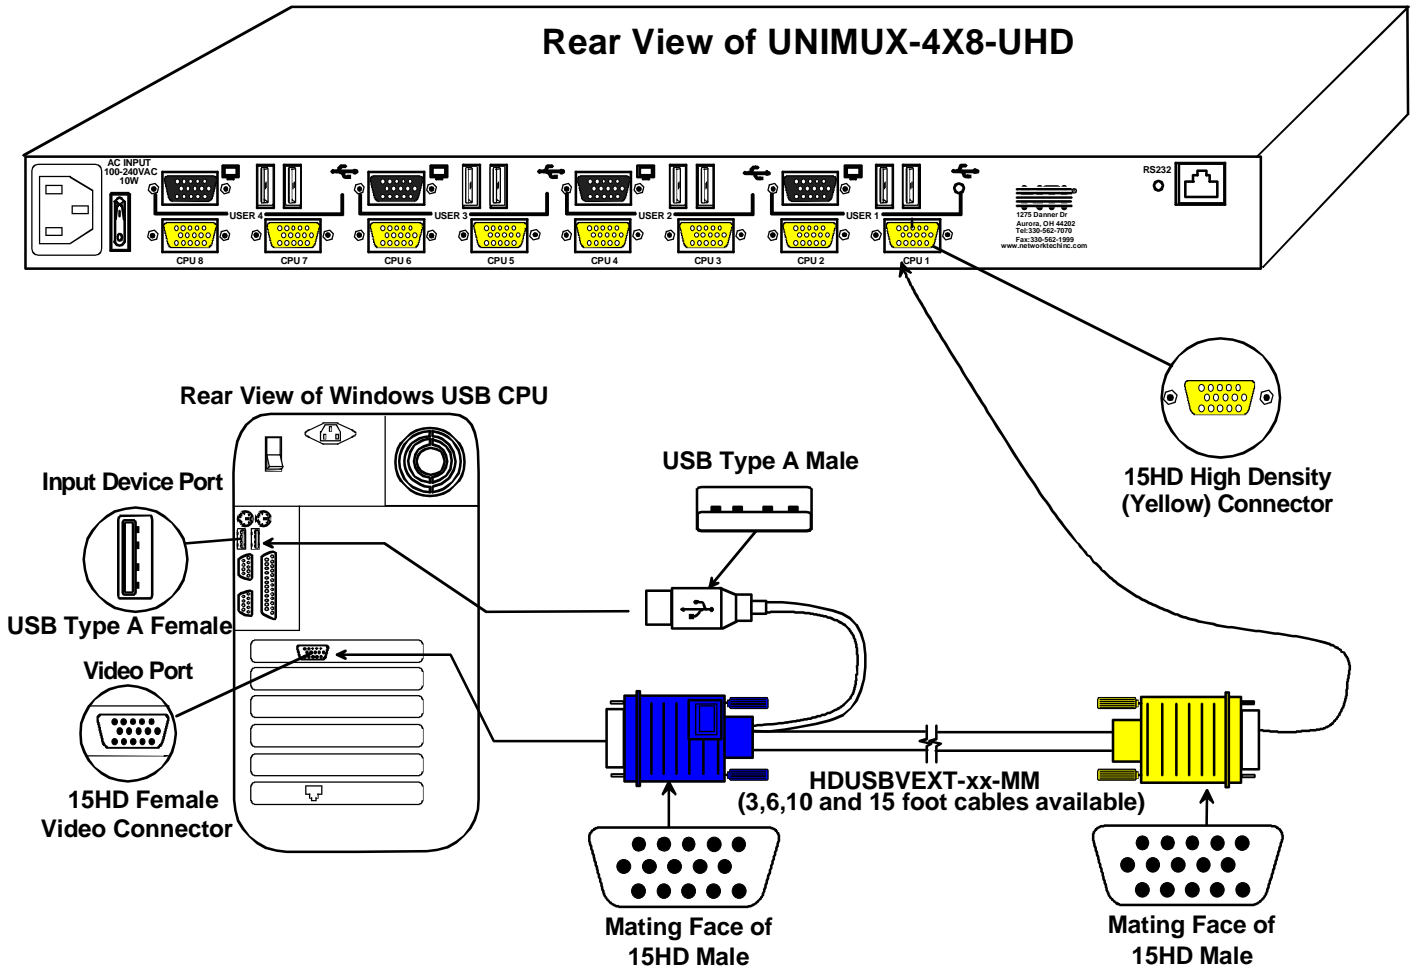

Figure 6- Connect each CPU using a HDUSBVEXT-xx-MM cable
- Connect the 15HD yellow male cable end of the HDUSBVEXT-xx-MM cable to a yellow “CPU x” port on the UNIMUX switch. (See Figure 6)